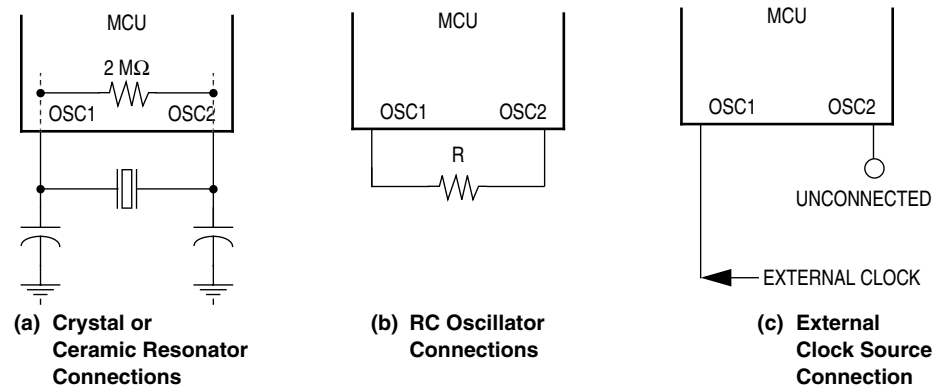

Figure 1-3. EPO Oscillator Connections
1. A crystal as shown in **Figure 1-3 (a)**
2. A ceramic resonator as shown in **Figure 1-3 (a)**
3. An external resistor as shown in **Figure 1-3 (b)**
4. An external clock signal as shown in **Figure 1-3 (c)**
The circuit in **Figure 1-3 (a)** shows a typical oscillator circuit for an AT-cut, parallel resonant crystal. The crystal manufacturer's recommendations should be followed, as the crystal parameters determine the external component values required to provide maximum stability and reliable startup. The load capacitance values used in the oscillator circuit design should include all stray capacitances. The crystal and components should be mounted as close as possible to the pins for startup stabilization and to minimize output distortion. An internal startup resistor of approximately 2 MΩ can be provided by the shunt resistor mask option between OSC1 and OSC2 for the crystal type oscillator. The crystal configuration is enabled by choosing the crystal selection in the oscillator connections mask option.
In cost-sensitive applications, a ceramic resonator can be used in place of the crystal. The circuit in **Figure 1-3 (a)** can be used for a ceramic resonator. The resonator manufacturer's recommendations should be followed, as the resonator parameters determine the external component values required for maximum stability and reliable starting. The load capacitance values used in the oscillator circuit design should include all stray capacitances. The ceramic resonator and components should be mounted as close as possible to the pins for startup stabilization and to minimize output distortion. An internal startup resistor of approximately 2 M Ω can be provided by the shunt resistor mask option between OSC1 and OSC2 for the ceramic resonator type oscillator. The ceramic resonator configuration is enabled by choosing the crystal selection in the connections oscillator mask option.
The lowest cost oscillator is the RC oscillator configuration where a resistor is connected between the two oscillator pins as shown in **Figure 1-3 (b)**. The internal startup resistor of approximately 2 M Ω is not recommended between OSC1 and OSC2 for the RC-type oscillator.
An external clock from another CMOS-compatible device can be connected to the OSC1 input, with the OSC2 input not connected, as shown in **Figure 1-3 (c)**. This configuration is possible regardless of whether the crystal/ceramic resonator or RC oscillator configuration is used.